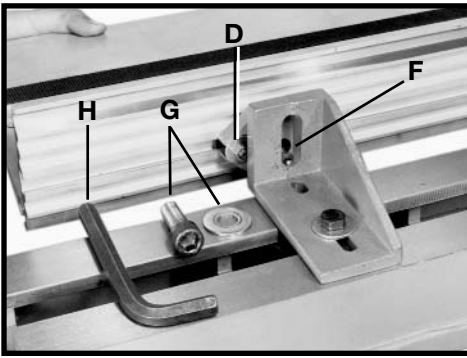

Fig. 35
5. Support the duplicator at both ends while sliding mounting pad (D) Fig. 35 along the duplicator rail. Slide until the tapped hole in mounting pad (D) lines up with the slot in mounting bracket (F), and fasten with M16 x 35mm hex socket head screw and flat washer (G) using supplied 14mm hex wrench (H).